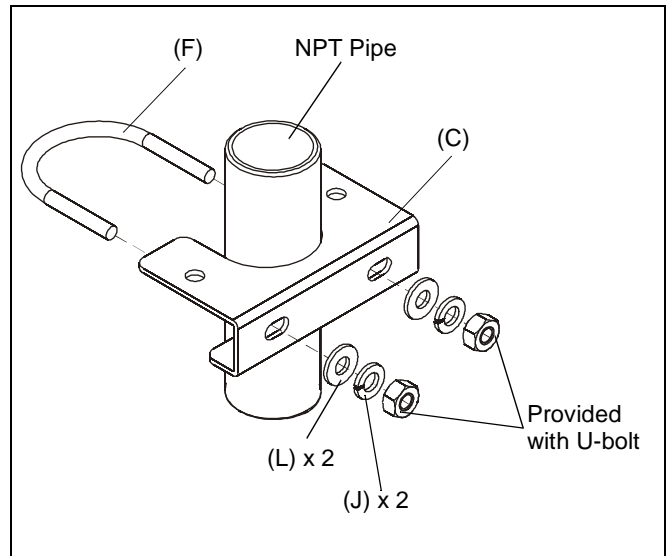

Figure 10
- a. **For 1-1/2" NPT** install the clamp at the desired height and secure using the U-bolt, two flat washers, two lock washers, and two 5/16-18 hex nuts (provided with U-bolt). (See Figure 10)